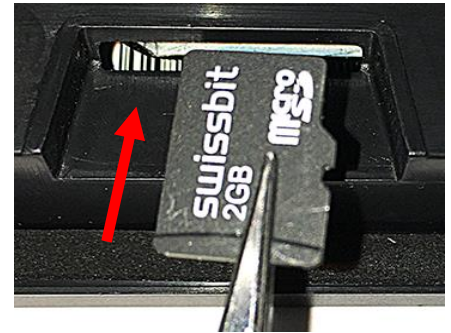
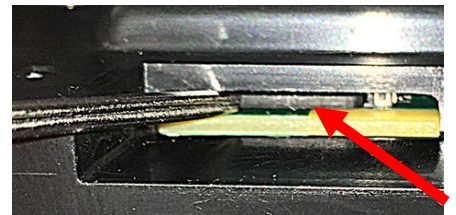

Figure 35
Figure 36
35. Insert the new SD card with contacts down towards the board (see Figure 35) into the new controller. Gently push the SD card into the SD card slot until it locks in place (see Figure 36).